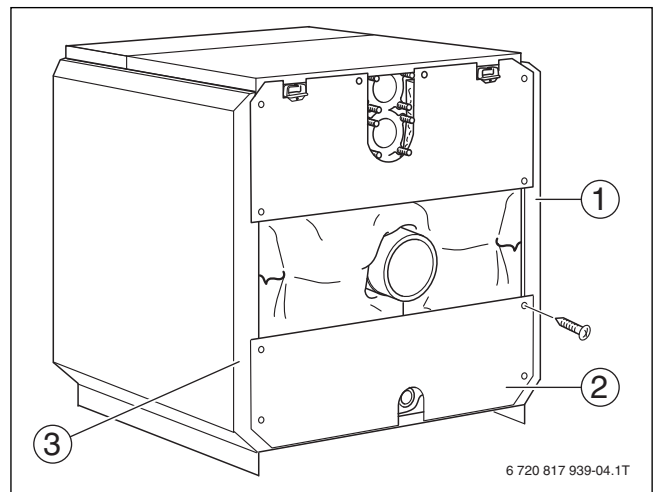

Fig. 42 Fitting the bottom rear boiler panel
- Screw the bottom rear boiler panel (Fig. 42, [2]) with the cut-out for the fill and drain connection down onto the side panels (Fig. 42, [1 and 3]).